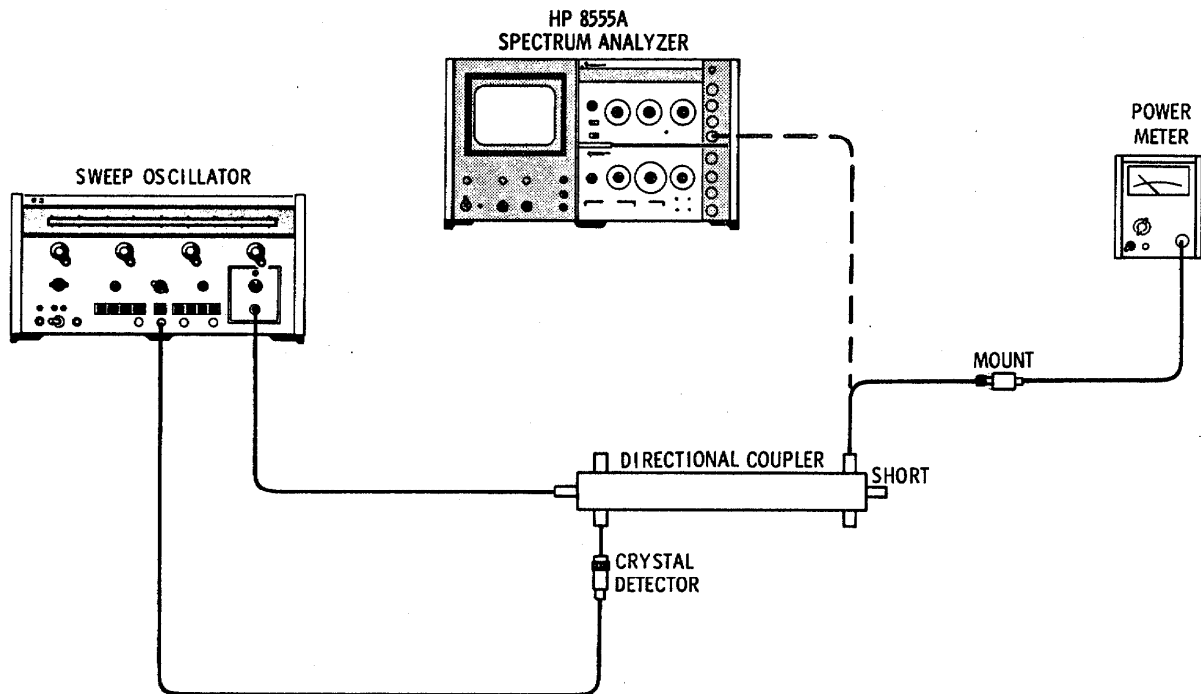

Figure 4-6. Frequency Response Test Setup, 0.1 to 2.05 GHz
2. Connect the test setup shown in Figure 4-6 with the power meter connected at the output with the 8699B RF Unit installed in the Mainframe. Level the sweeper between 0.1 and 2.05 GHz for -10 to -20 dBm reading on the power meter.
5. Repeat steps 1 through 4 using the appropriate sweeper RF Unit and test setup, Figure 4-6 or 4-7 to check the remaining frequency bands of the analyzer. Adjust the analyzer FREQUENCY control and BAND to correspond to the frequency range being checked. The frequency response for each band should be within the limits tabulated below.